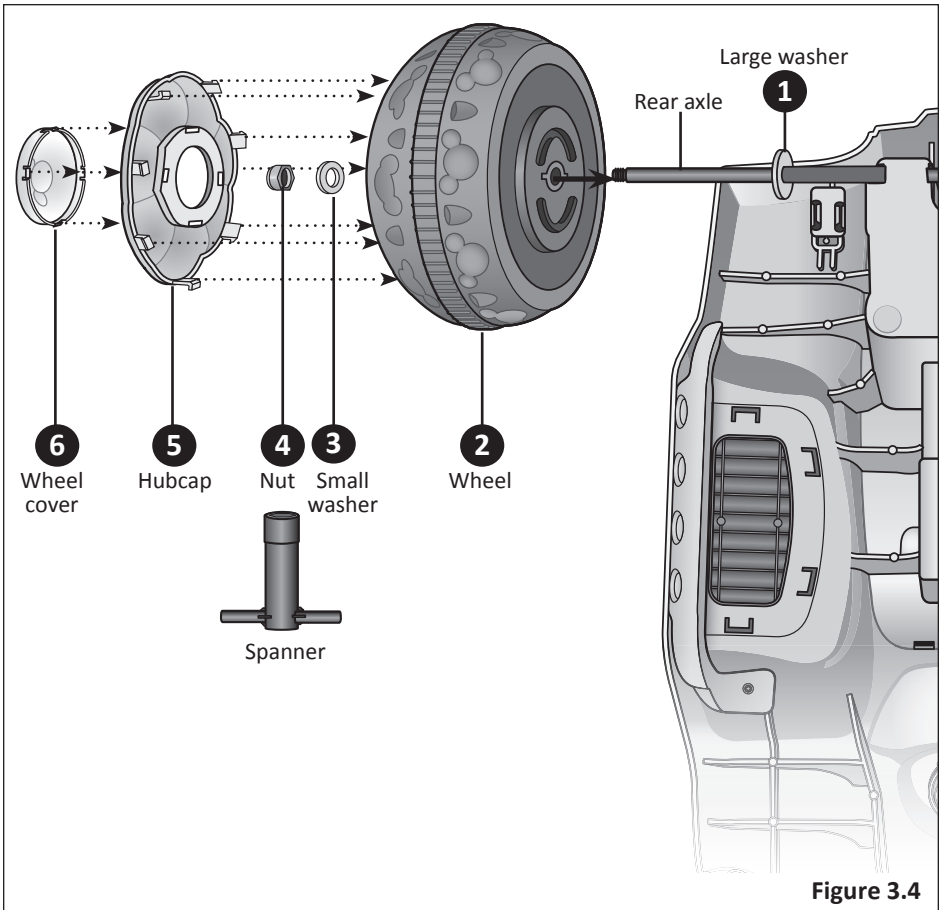

Figure 3.4
- 1 Slide the wheel all the way onto the axle until it meets the large washer. **Note:** All the wheels are identical and can be placed on any axle. **Figure 3.4**